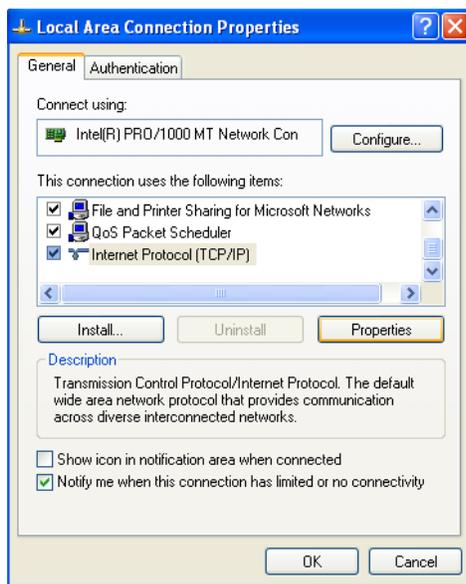

FIG. 15
4. The Local Area Connection Properties window will open. Select Internet Protocol from the listed options. Click on Properties. The Internet Protocol Properties window will appear. See FIG. 15.